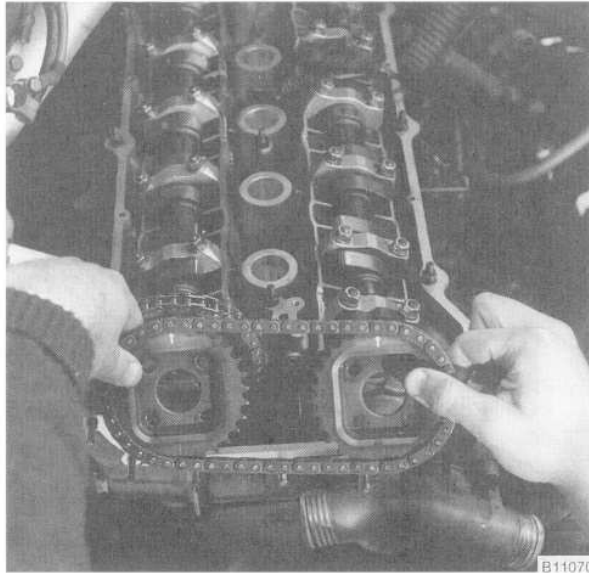

Fig. 30. Secondary chain sprockets and chain being installed on non-VANOS engine. Attach sprockets with arrows pointing up and elongated holes centered.
11. Install as an assembly, the secondary chain sprockets and chain so that the arrow(s) on the sprocket(s) are pointing up. Center the mounting holes in the sprockets to the bolt holes in the camshafts. See Fig. 30. On 1993 and later cars, install thrust washers to the sprockets.